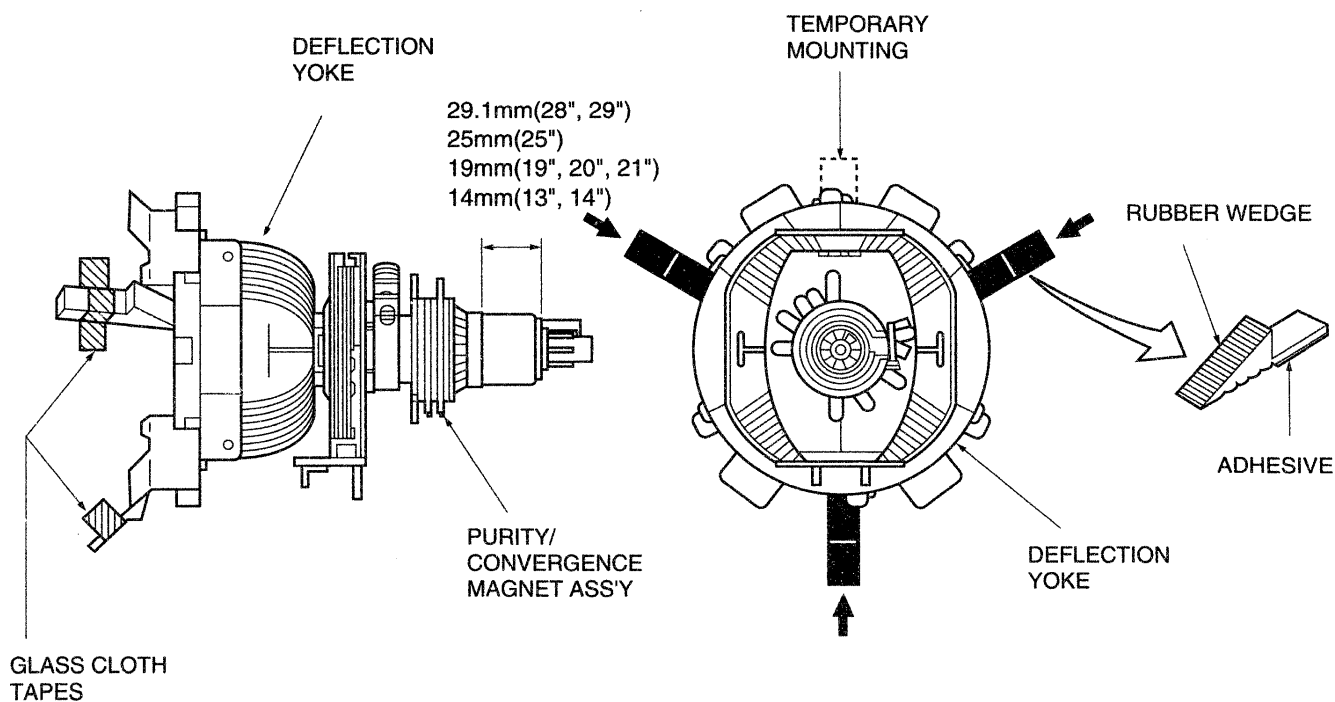

Figure 1.
Refer to figure 1.
2. Temporarily put a wedge as shown in figure 1. (Do not remove cover paper on adhesive part of the wedge.)
9. Stick three adhesive tapes on wedges as shown in figure 1.